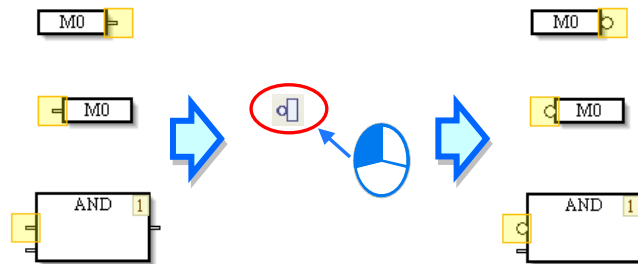

Figure 12-18 Negating the state of a pin
- (1) If users select the pin of a node, a pin of a logic gate, a pin of a function block, or a pin of an instruction, and then click  on the PMSoft toolbar or on the context menu which will appear after the users right-click the pin, the state of the pin will be negated. Please see figure 12-18. If the users select a pin whose state is negated, and then click , the state of the pin will not be negated.